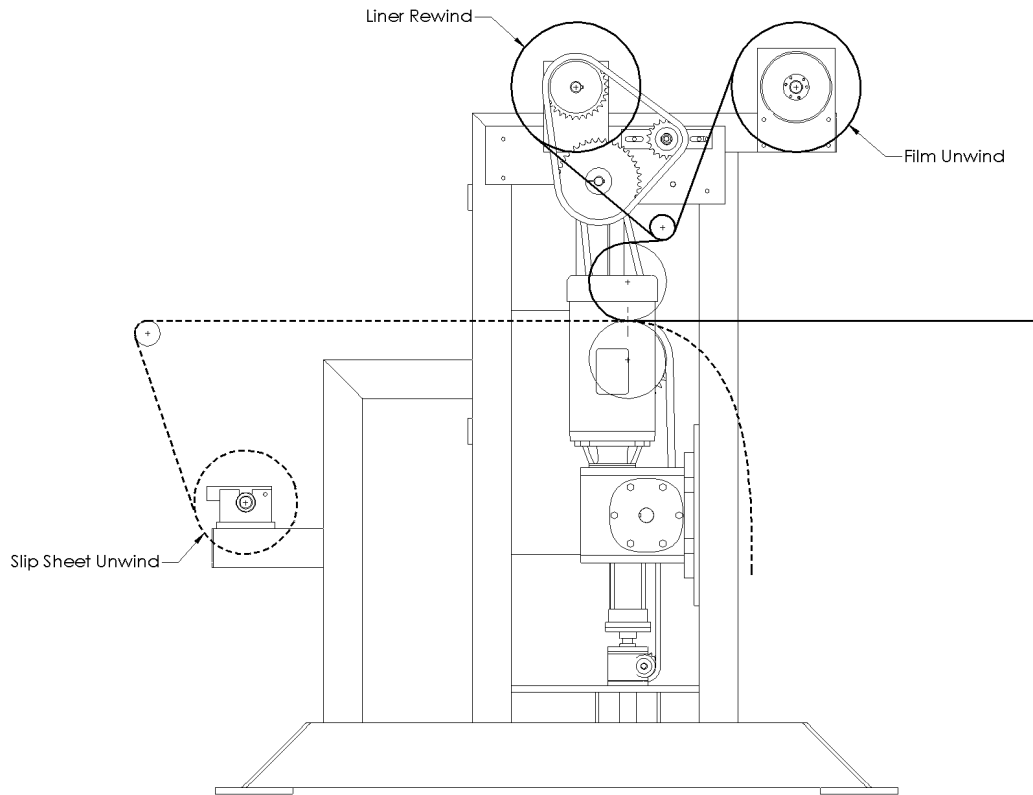

Figure 4: SRA1000 Material Thread Diagram
The Slip Sheet Unwind allows a roll of rewound liner paper to be fed under the processed material to protect the rubber Drive Roller from excess adhesive. The liner paper is threaded through the SRA1000 as shown in Figure 4. Web tension for the Slip-Sheet Unwind is controlled by the knurled knob located on the operator end of the Slip-Sheet Unwind Mandrel Support Arm. Turning the knob clockwise will increase the Slip-Sheet web tension, while turning the knob counterclockwise will decrease the tension.
6. Thread the material through the SRA1000 as shown in Figure 4. Do Not close the Nip Roller set at this time.
9. Align one (1) or both of the material guides on the Input Table.